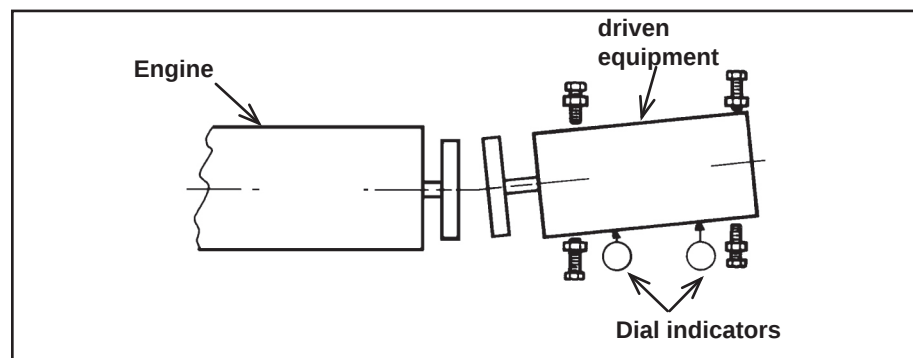

Figure 7-39: Adjusting for angular alignment
1. Set up two dial indicators, one to monitor horizontal movement of the inboard mounts, one to monitor horizontal movement of the outboard mounts. Zero the indicators (see "Figure 7-39: Adjusting for angular alignment").